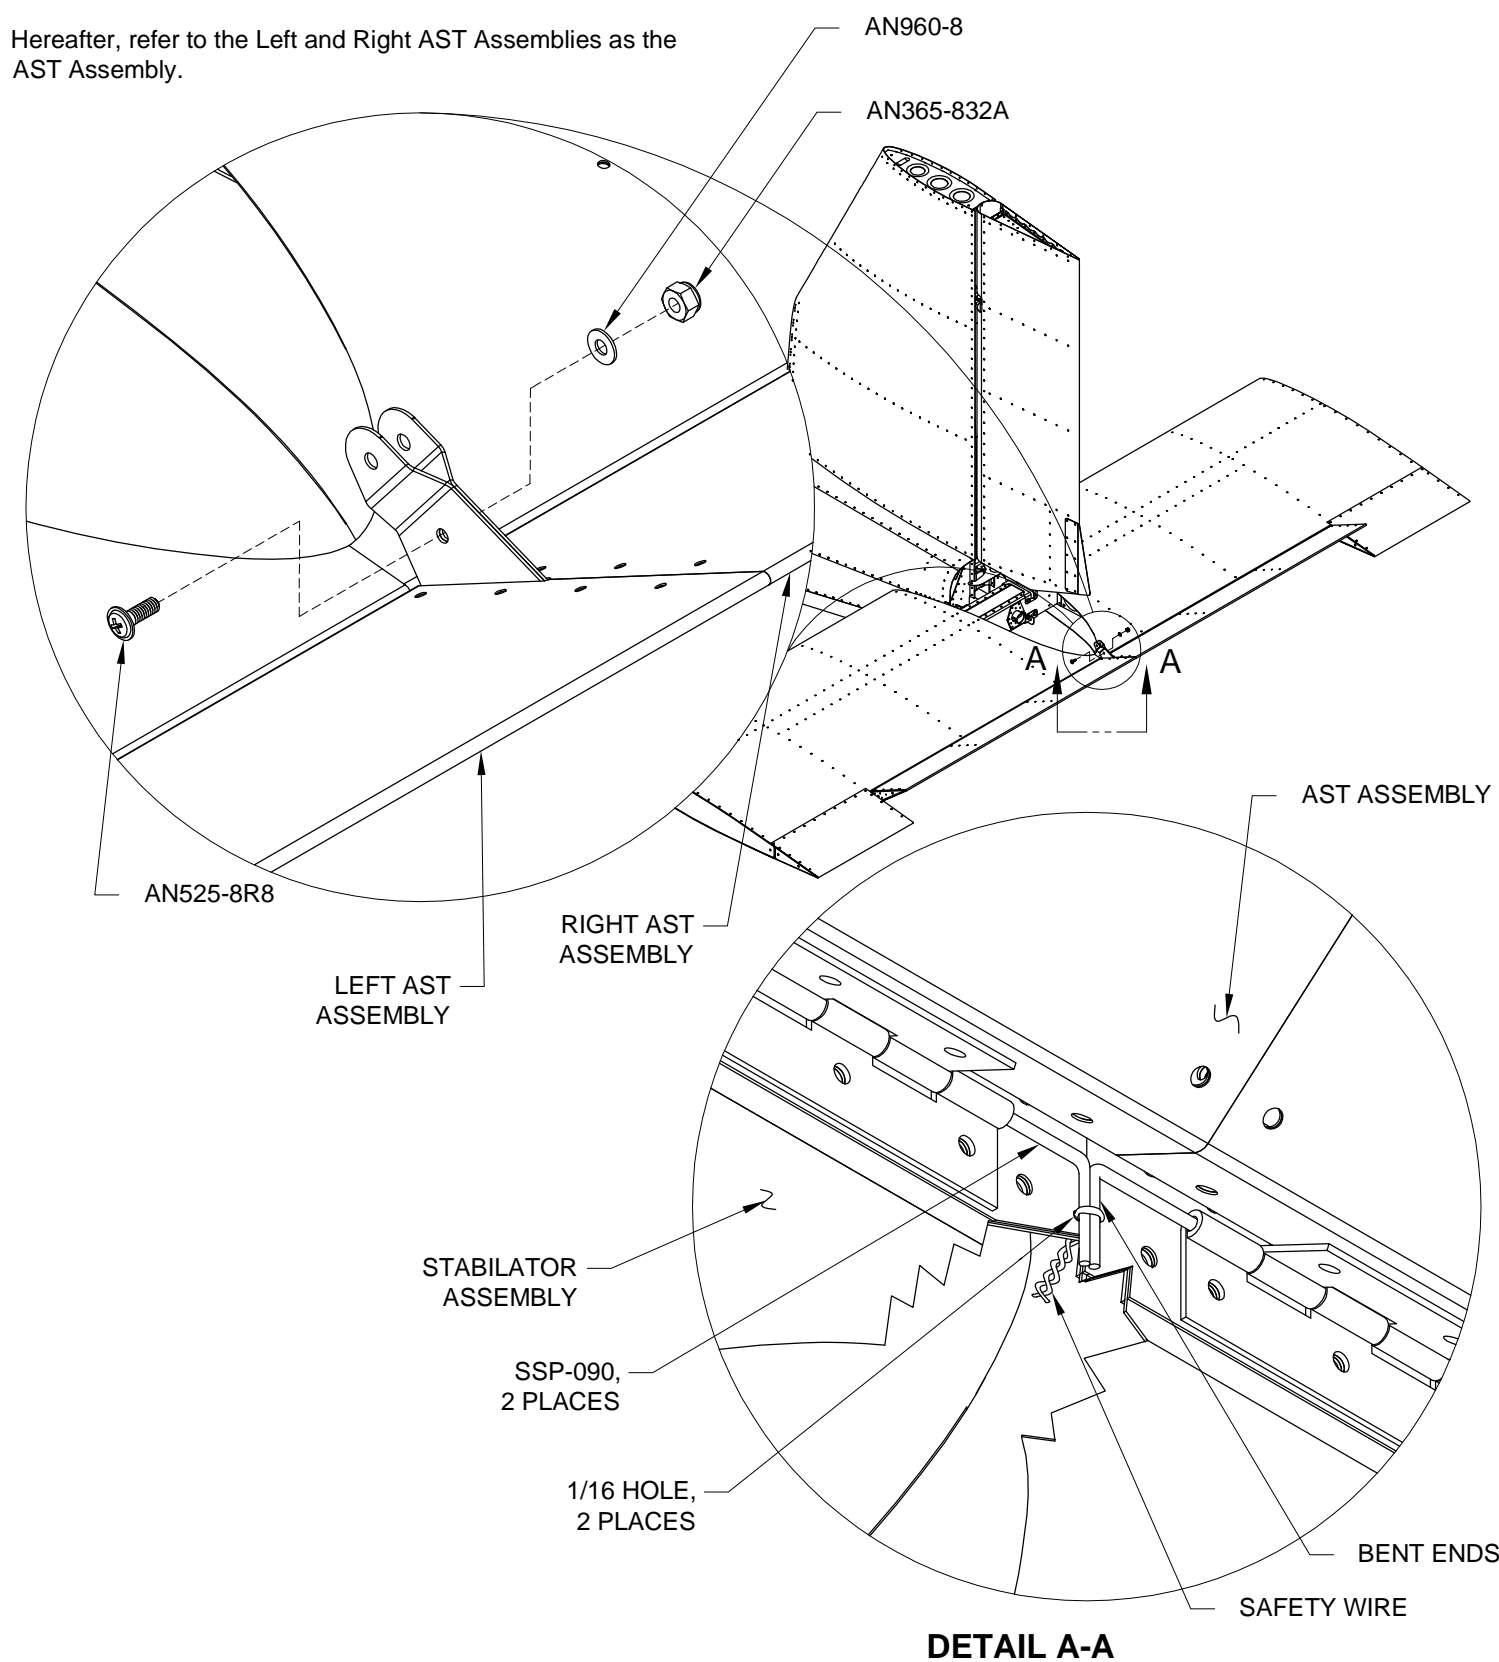

FIGURE 3:
Step 3: Attach the Left and Right AST Assemblies together using the hardware called out in Figure 3.
Step 4: Rotate the hinge pins so the bent ends lay against the Stabilator Assembly. Fasten the bent ends of both hinge pins with safety wire through the holes called out in Figure 3, Detail A-A. Twist the safety wire on the inboard side of the Stabilator Assembly as shown.